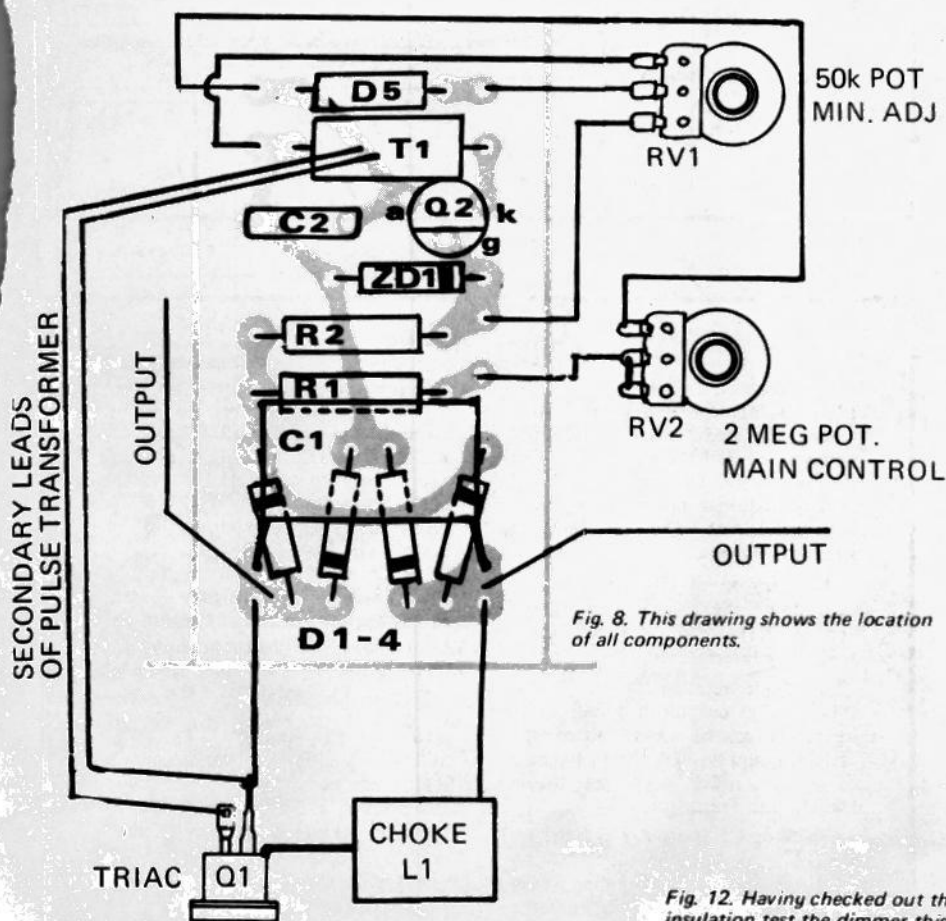

Fig. 8. This drawing shows the location of all components.
5. The components can now be soldered onto the printed circuit board. Locate transistor Q2 so that it is about 3/16" off the board and transformer T1 so that it is about 1/8" off the board. Capacitor C1 is mounted flat on top of the diodes. Fig. 8 shows the location of all components.